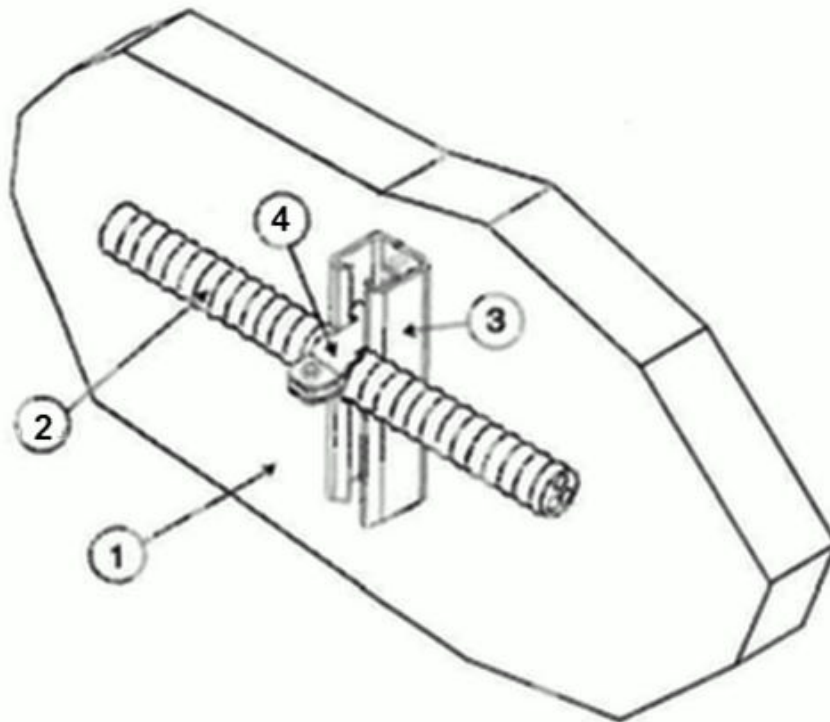

Fig. 1
3. **Supports** — (Figure 1) Min 12 gauge, by 1-1/2 in. wide or 1-5/8 in wide, painted or unpainted, slotted steel channels with hemmed flange edges. Channel bottom with or without holes. Lengths of slotted steel channels 5 ft and less shall be secured to the wall or floor with a min of two 1/4 in. diameter (or larger) by 2-1/4 in. min long concrete screws, or 1/4 in. diameter (or larger) by 1-3/4 in. long min steel masonry anchors. One screw or anchor to be located at each end of the slotted steel channel. Lengths of slotted steel channel in excess of 5 ft require a min of three screws or anchors, one at each end of the channel and one centrally located within the length of the channel. The supports shall be spaced a maximum of 4 ft. OC.